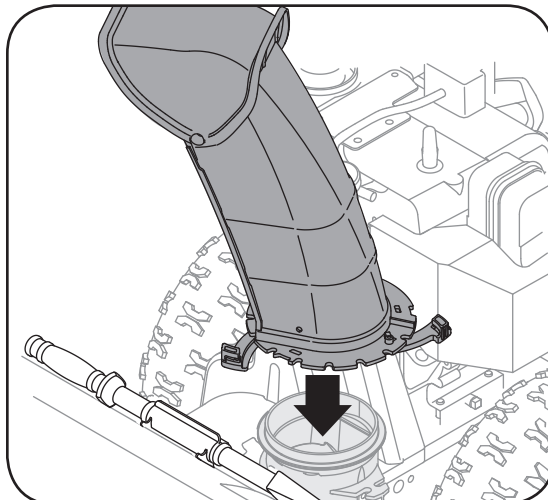

Figure 3
3. Make sure that the flange keepers are opened. Position the chute assembly (forward-facing) over the chute base. See Figure 3.